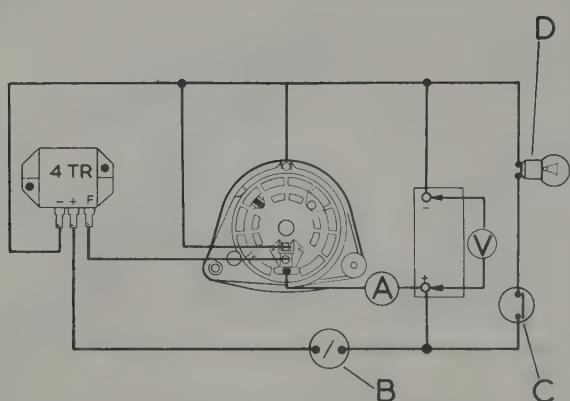

Fig. 10.8. Alternator (11AC) control unit - testing diagram
- 1 Disconnect the main output lead from the alternator or starter solenoid and connect a 0.50 ammeter in series with the lead and its connection (Fig.10.8).